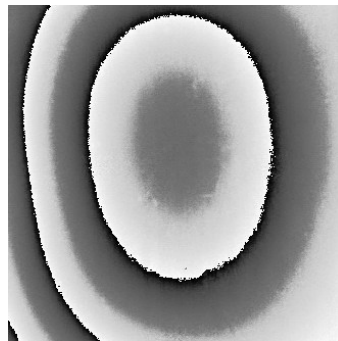

Figure 5.2 Banded Phase Image
- A banding pattern of grayscale values appears in the phase image. (Figure 5.2)
The grating is touching the sample (more generally, some point on the lid is touching some point on the sample support fixture), so that the grating does not translate independently of the sample during phase stepping. The phase image frequently has the appearance of **Figure 5.2**. Use the Sample/Grating Height adjustment dialog to manually raise and lower the sample at Slow Speed. If the sample is touching, the fringe pattern is frozen at some or all points on the sample.